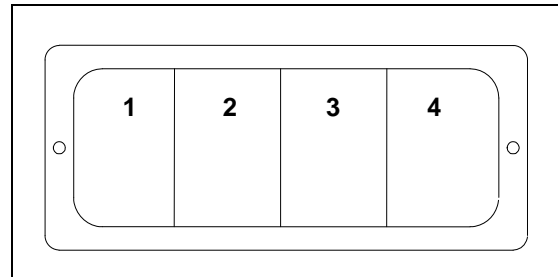

Figure 7
Step 8 –See Figure 7
For the 444TA use a sharpie or equivalent style marker to write which alarm goes to which tank or operation on the upper label shown in Figure 7. When finished, apply the clear cover to the label. (See Figure 7)